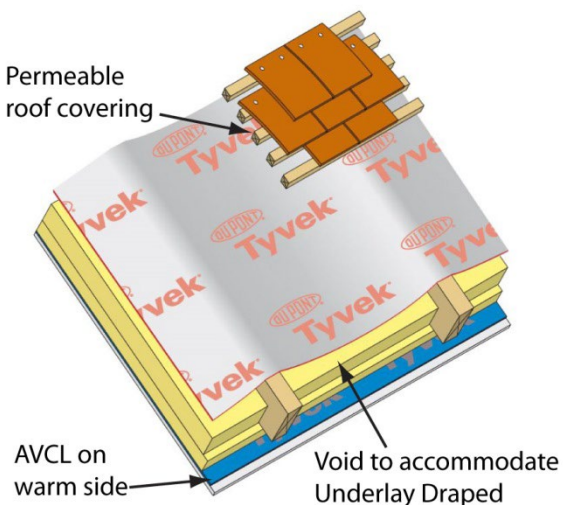

Figure 5
5. Warm roof - Non-ventilated (Vapour Permeable covering) draped (Figure 5)